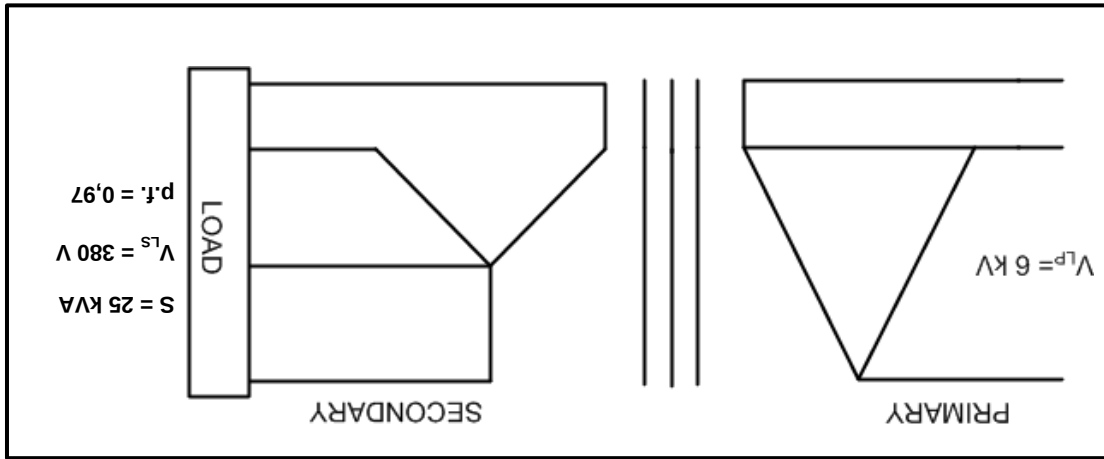

FIGURE 3.1: THREE-PHASE TRANSFORMER
- 3.4 FIGURE 3.1 below represents the delta-star connection of a three-phase transformer. (1)